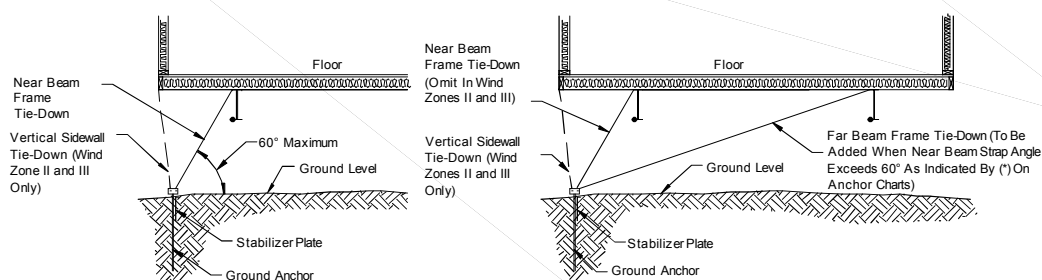

Figure 72. Lateral tie-down configurations
* Indicates a configuration that will require an additional strap connected to the far beam (see Figure 72).
* Indicates a configuration that will require an additional strap connected to the far beam (see **Figure 72**).
There are two primary tie-down configurations: the near beam and the far beam methods. If the anchor spacing selected in the appropriate anchor table (**Table 27**, **Table 28** or **Table 29**) has an asterisk (*) then use the far beam method. Otherwise, use the near beam method (**Figure 72**). Each method varies by wind zone as described below.